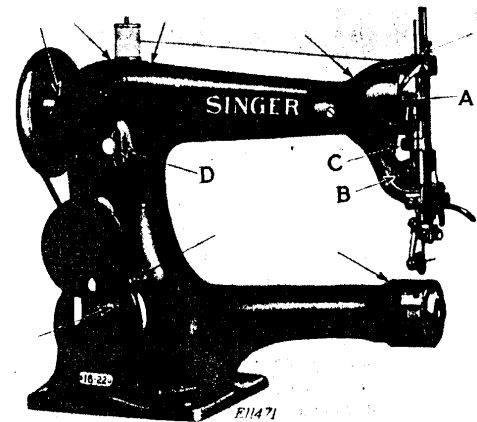

FIG. 2. OILING POINTS AT THE FRONT OF THE MACHINE
Oil should be applied to all oil holes marked "Oil" and to all oiling places indicated by arrows in Fig. 2. Arrow (A, Fig. 2) points to the take-up lever hinge screw which is concealed in Fig. 2 by the arm side cover at the front end of the machine. This oiling point is reached through the open end of the arm side cover as indicated by arrow (A).
The length of stitch is regulated by the thumb screw (D, Fig. 2) in the slot in the front of the arm at the left. To lengthen the stitch, loosen the thumb screw (D) and move it upward. To shorten the stitch, loosen the thumb screw and move it downward. When the desired length of stitch is obtained, tighten the thumb screw (D).